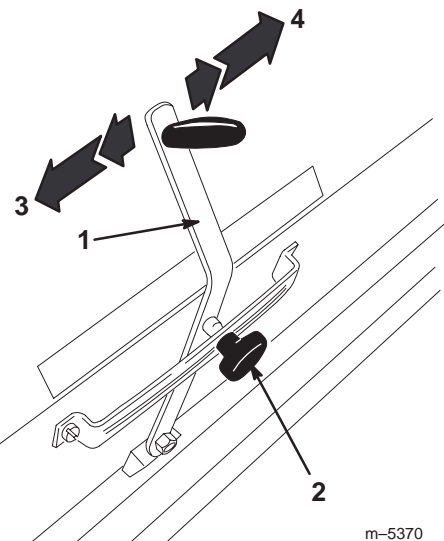

Figure 6
1. Loosen the knob on the front of the adjustment lever assembly on the front of the seeder box (Fig. 6).
2. Slide the lever to the desired setting (Fig. 6).
3. Tighten the knob (Fig. 6).